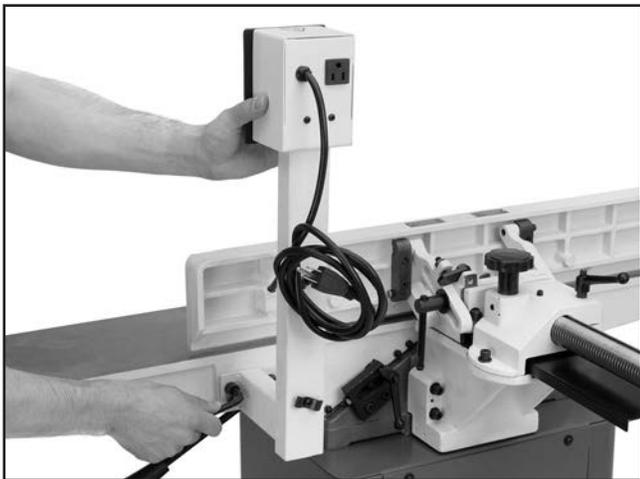

Figure 26. Installing support arm.
1. Install the support arm with the M8-1.25 x 25 cap screws and flat washers as shown in **Figure 26**.